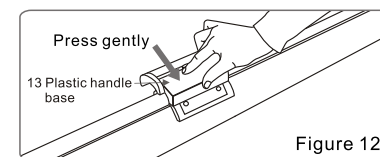

Figure 12
4. Be sure the screen is completely stowed and locked before carrying the product by handle, even if the screen could be locked automatically while the uphold bar were locked in the clip. (Figure 12)